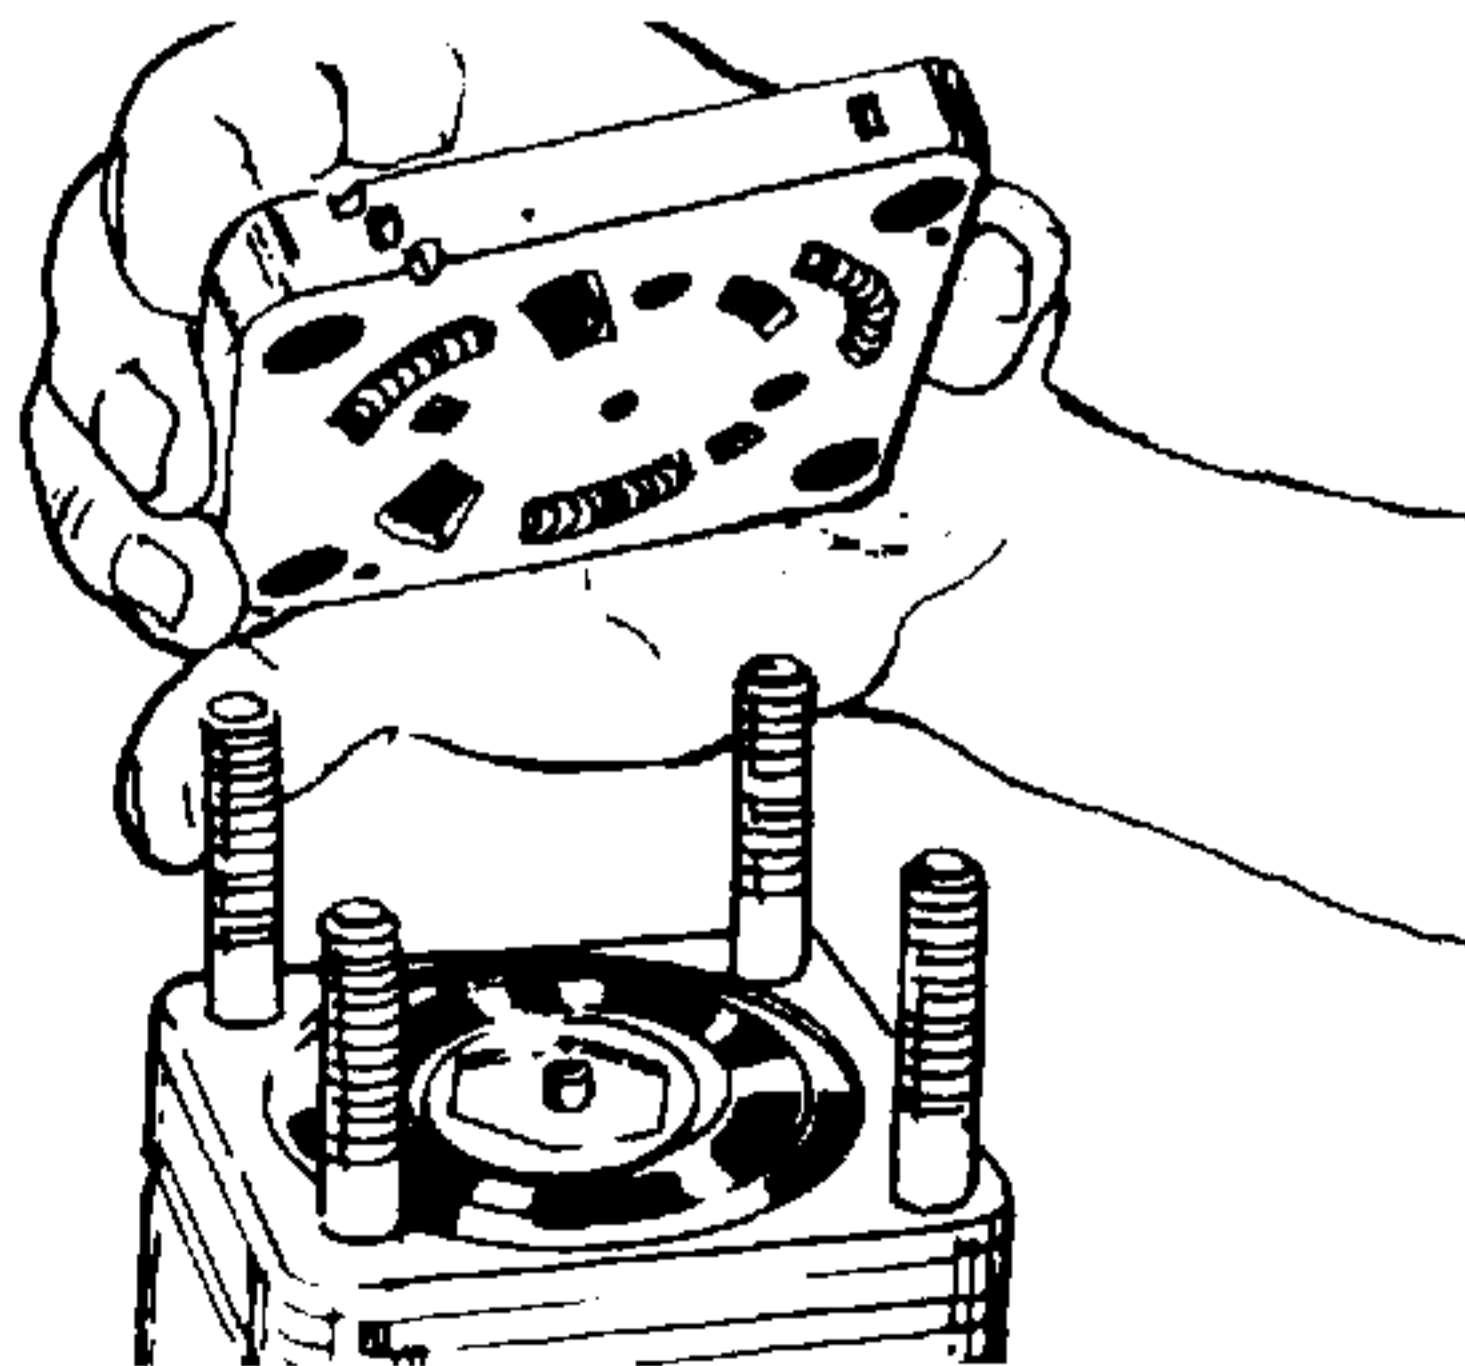

Figure 4-86. Installing Port Manifold.
installation. The two needle rollers (11) in the valve plate will engage the holes in the port manifold. The roller on the hex drive assembly (9) must engage the center hole in the port manifold. See Figure 4-86.